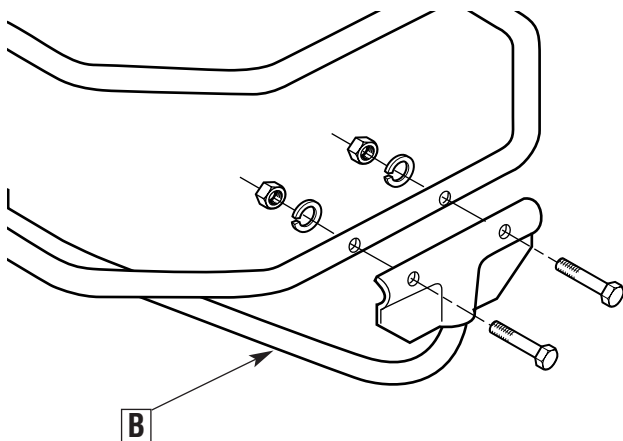

Figure 3: REMOVE BOTTOM BRACE HARDWARE
1. Remove and discard the two nuts, lock washers and 5/16"-18 x 1-1/2" screws which secure the bumper brace to the lower bumper (B, Figure 3).